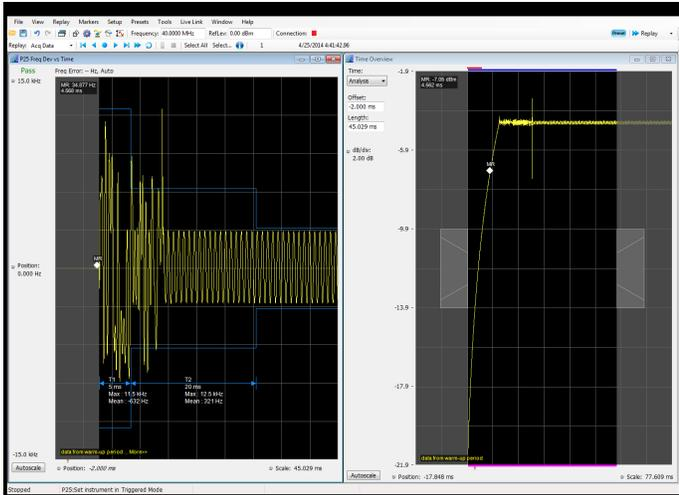
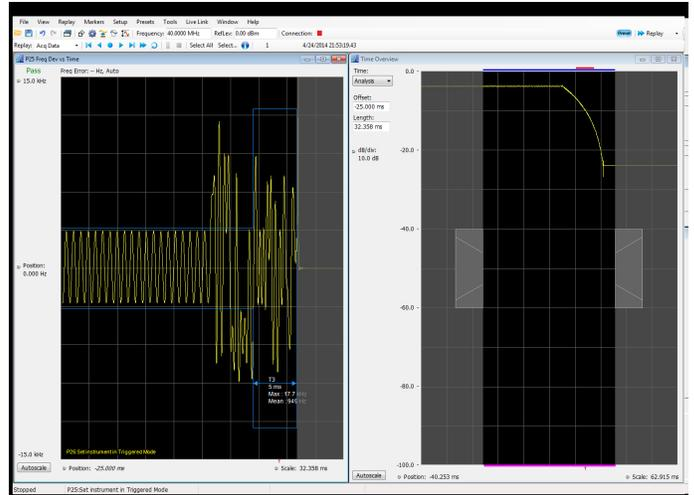

Figure 21. Transient Frequency Behavior OFF to ON displays.
Figure 22. Transient Frequency Behavior ON to OFF displays.
■ **Result:** The result is displayed in the P25 Freq Dev vs Time display at the time of the measurement as shown in Figure 21 for OFF to ON and Figure 22 for ON to OFF. Pass/Fail information is provided at the top left corner to the display.